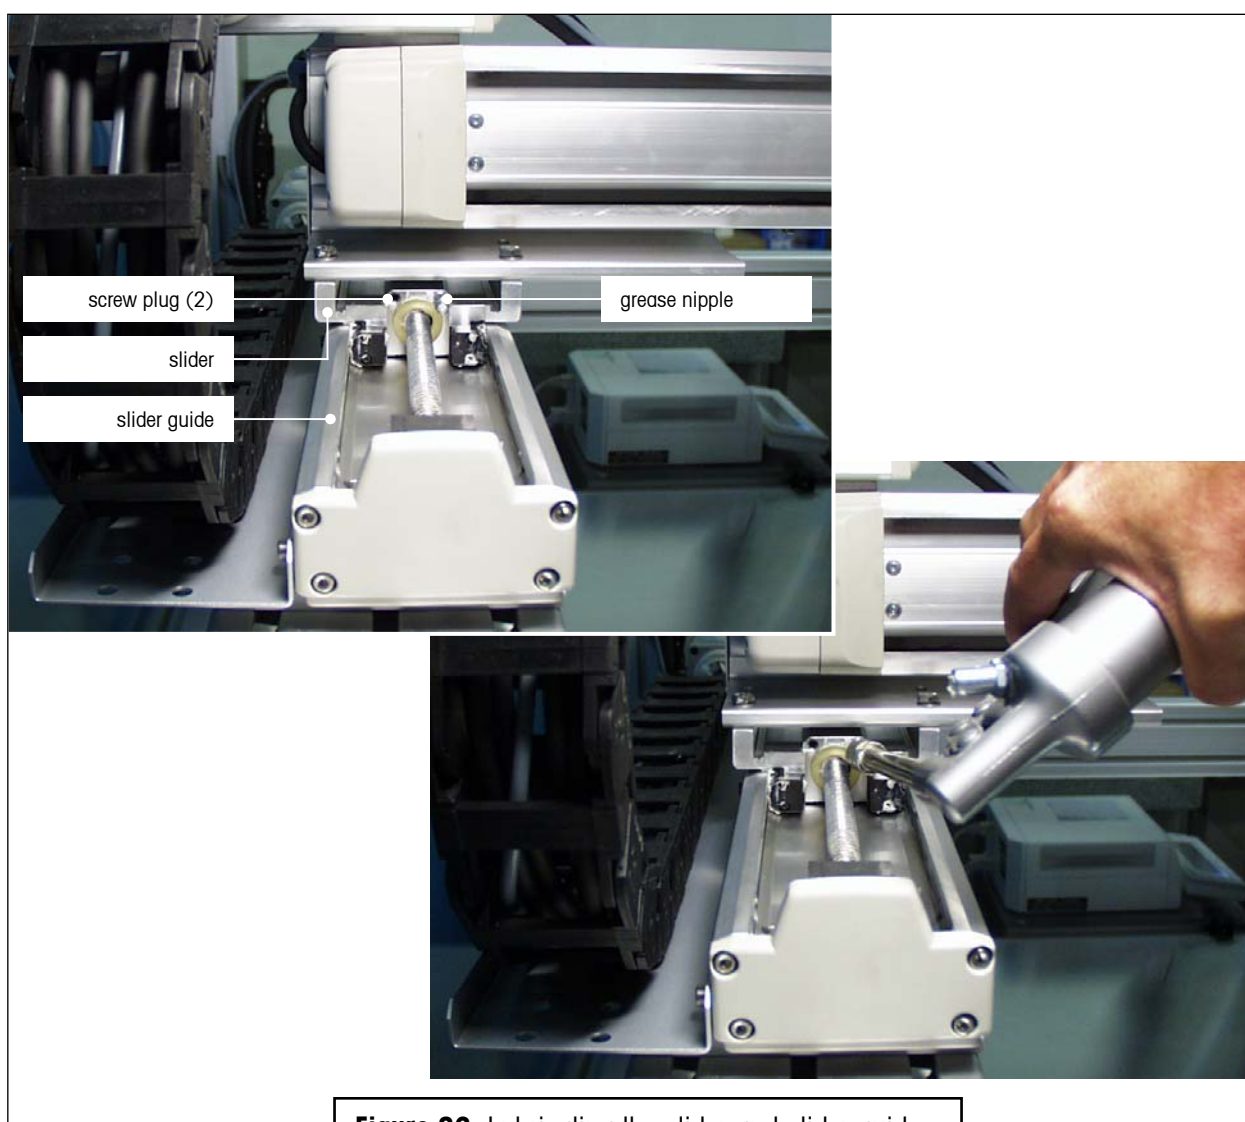

Figure 36 Lubricating the slider and slider guides
- Remove the first screw plug (see Figure 36) and insert the lubrication nipple
- Squirt the grease in the nipple with a grease gun (see Figure 36)